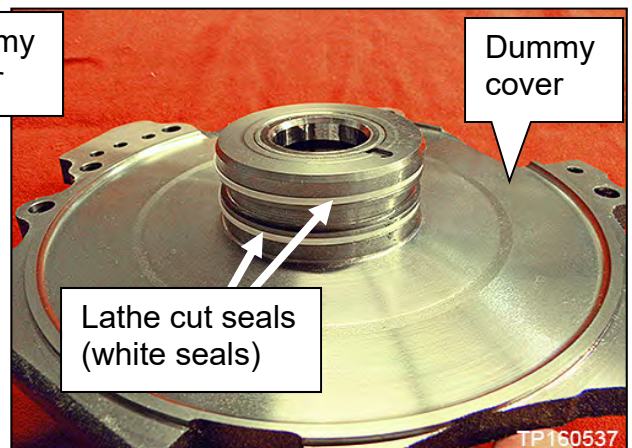

Figure 51
- Do **NOT** remove the lathe cut seals (white seals, Figure 51) from the dummy cover. These seals will be reused.